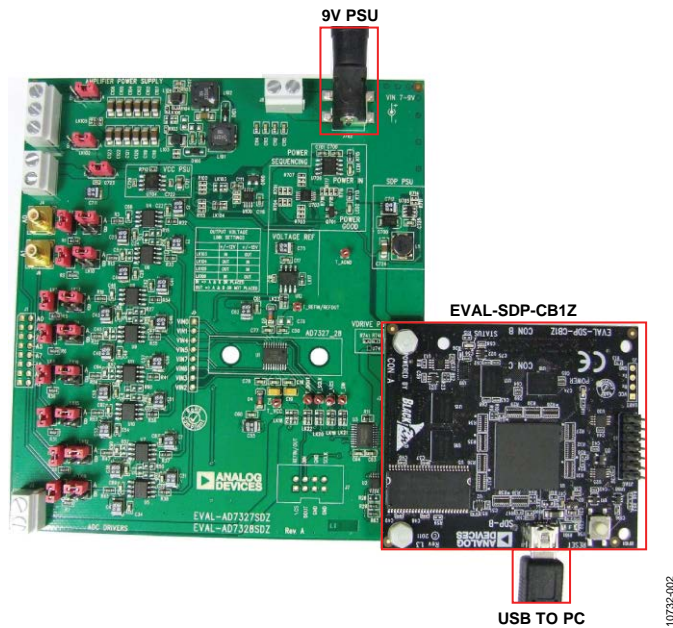

Figure 2. Setting Up the EVAL-AD7327SDZ/EVAL-AD7328SDZ
2. Connect the EVAL-SDP-CB1Z board to the EVAL-AD7327SDZ/EVAL-AD7328SDZ board, as shown in Figure 2.